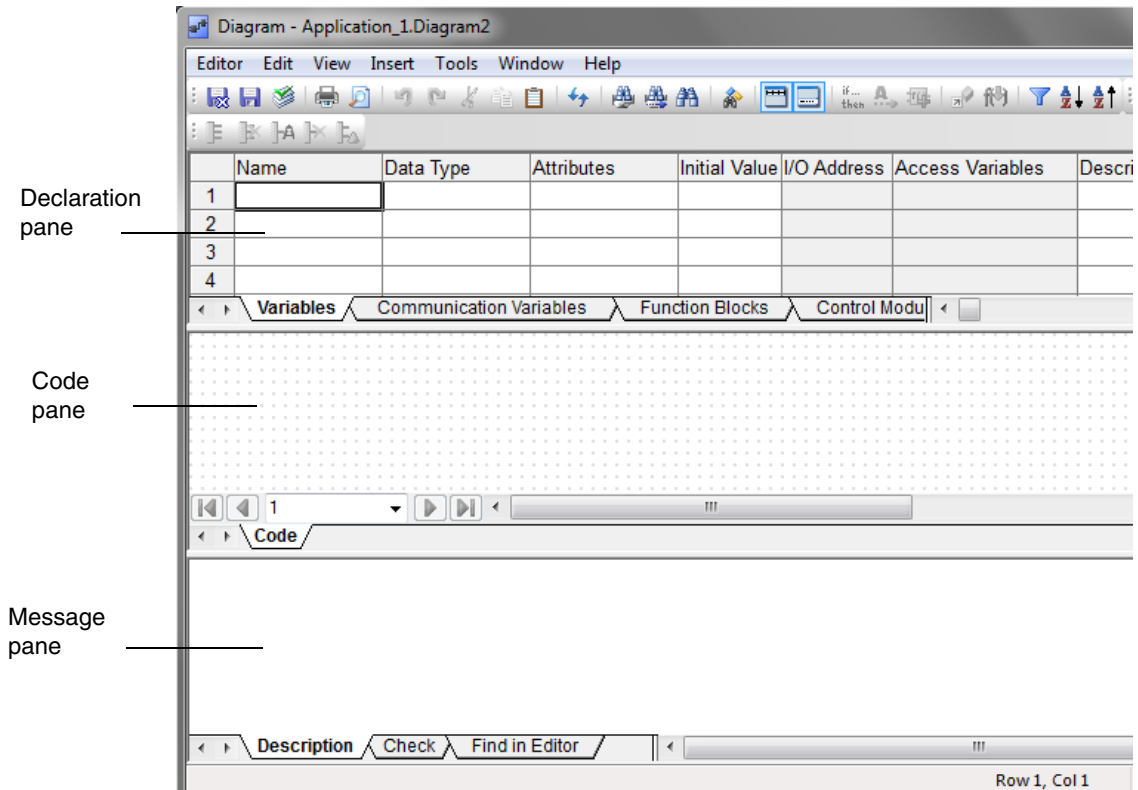

Figure 28. The editor for Diagram2
- The diagram editor is divided into three panes: the declaration pane, the code pane, and the message pane, see Figure 28.